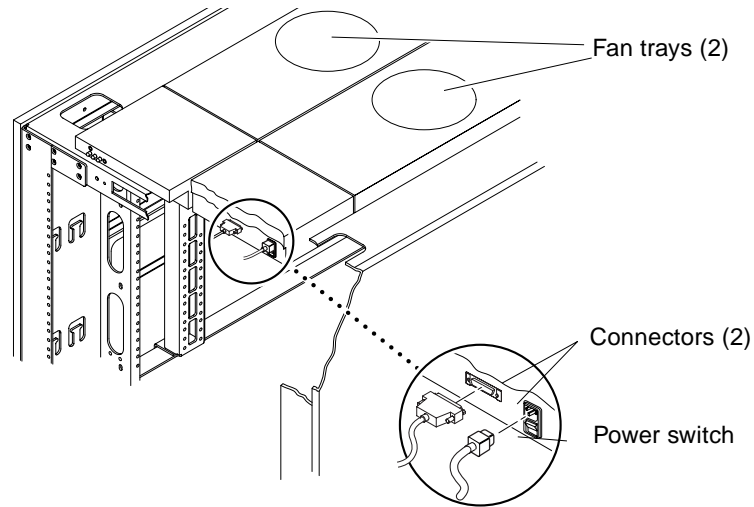

FIGURE 6-2 Fan Tray Power Switch and Connectors
1. Ensure that the power switch is set to off (FIGURE 6-2).
3. Disconnect and then remove the two connectors from the rear of the fan tray (FIGURE 6-2).